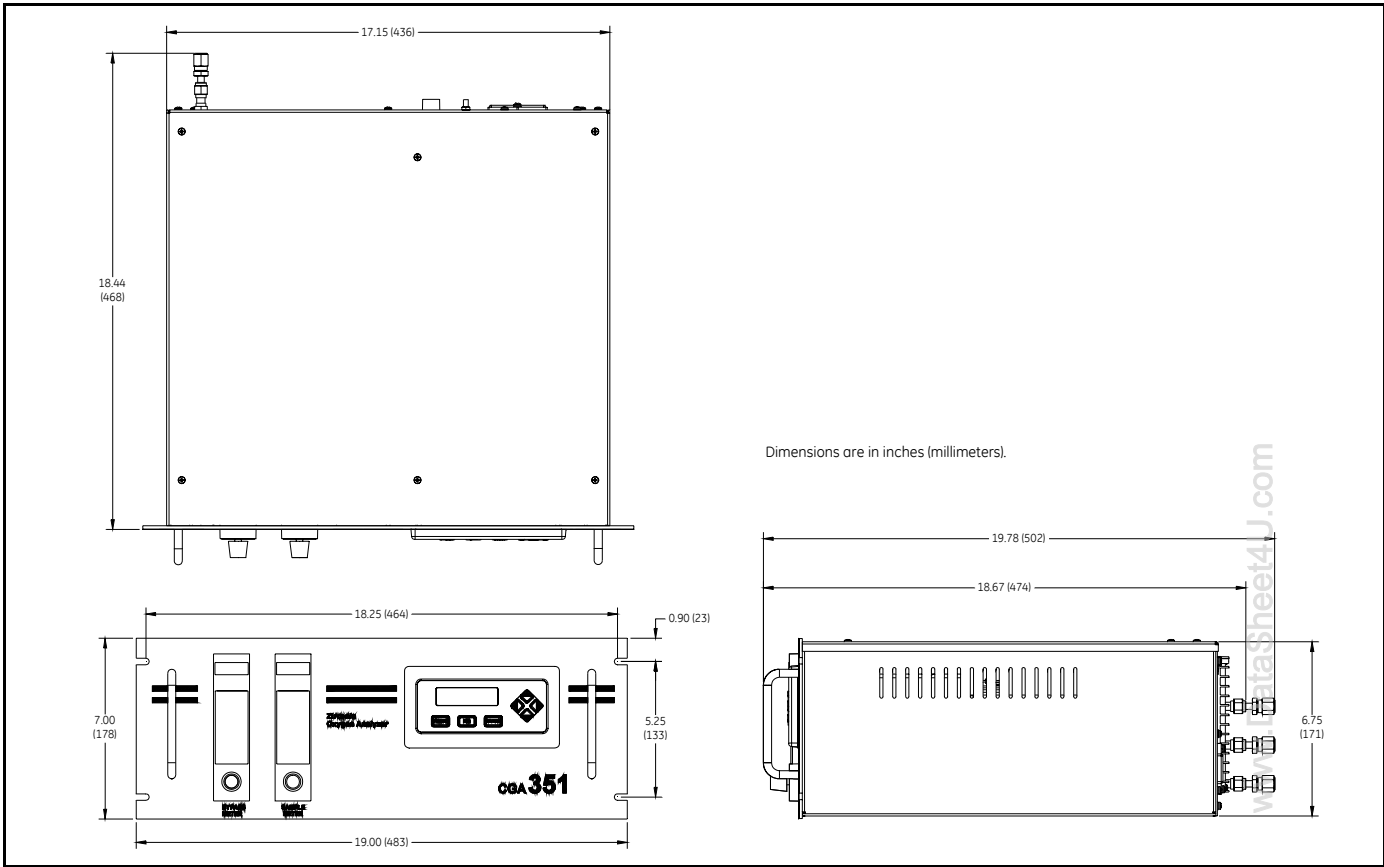

Figure C-5: CGA 351 Rock Mount Version - Outline and Mounting Dimensions
**Mounting the Rack Mount** Refer to Figure C-5 on page C-6 for mounting dimensions and install the rack mount CGA 351 as follows: